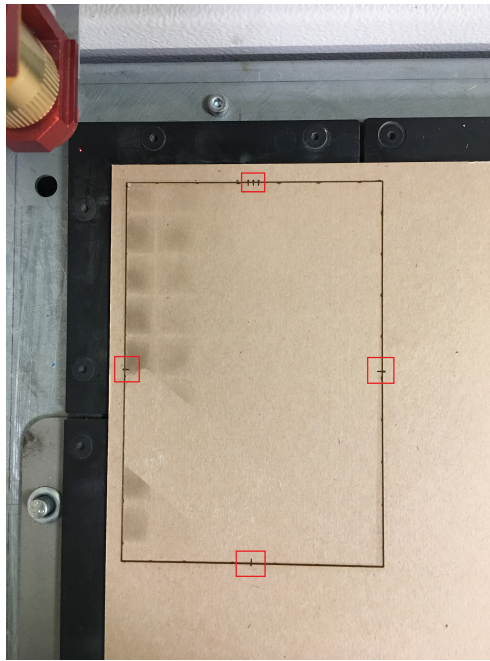

Figure 33: Alignment of the flipped window to the previous position for Side 2 cut
- a. Use the dashes (three on the top side and one on each of the three other sides) to ensure that the rectangle is in the proper orientation (Fig. 33).